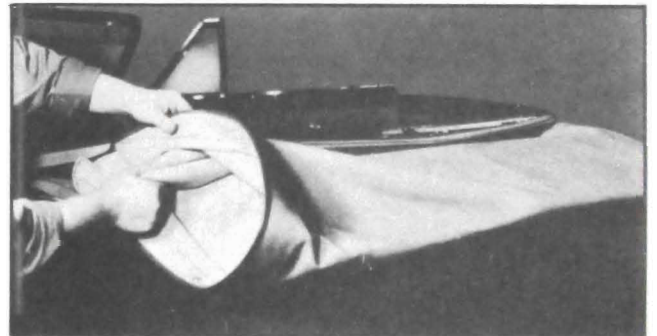

Figure 13-47—Pulling Out Top Padding
4. Pull out top padding on both sides as shown in figure 13-47 and tuck it down into the top compartment. NOTE: *Top material and padding must not be pinched by the operating arms of top.*